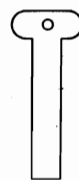

FIG. 2
3. Push the tuning knob in and turn it so that the dial pointer comes to the right end of the dial. If your radio is a table model, a key, illustrated in Fig. 2, will be found in the Instruction Leaflet envelope. Insert this key in the hole in the side of the cabinet from which the snap-in button was removed and engage the key with the slot at the end of the tuning mechanism. (Turn counter-clockwise.) The key, a few turns, unlocks the mechanism. (A screw driver can be used for unlocking the mechanism instead of the key supplied.)